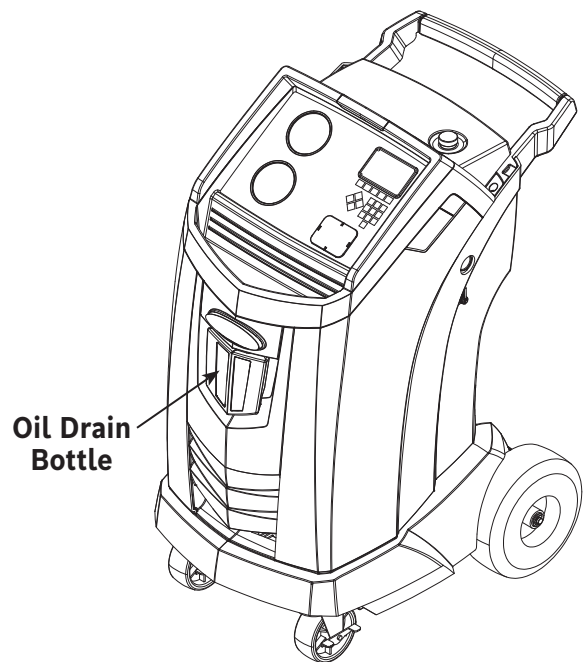

Figure 8
3. Remove the oil drain bottle (see Figure 8) from the Robinair machine. Drain the oil bottle, and dispose of the oil according to applicable regulations. Reinstall the oil drain bottle on the machine.